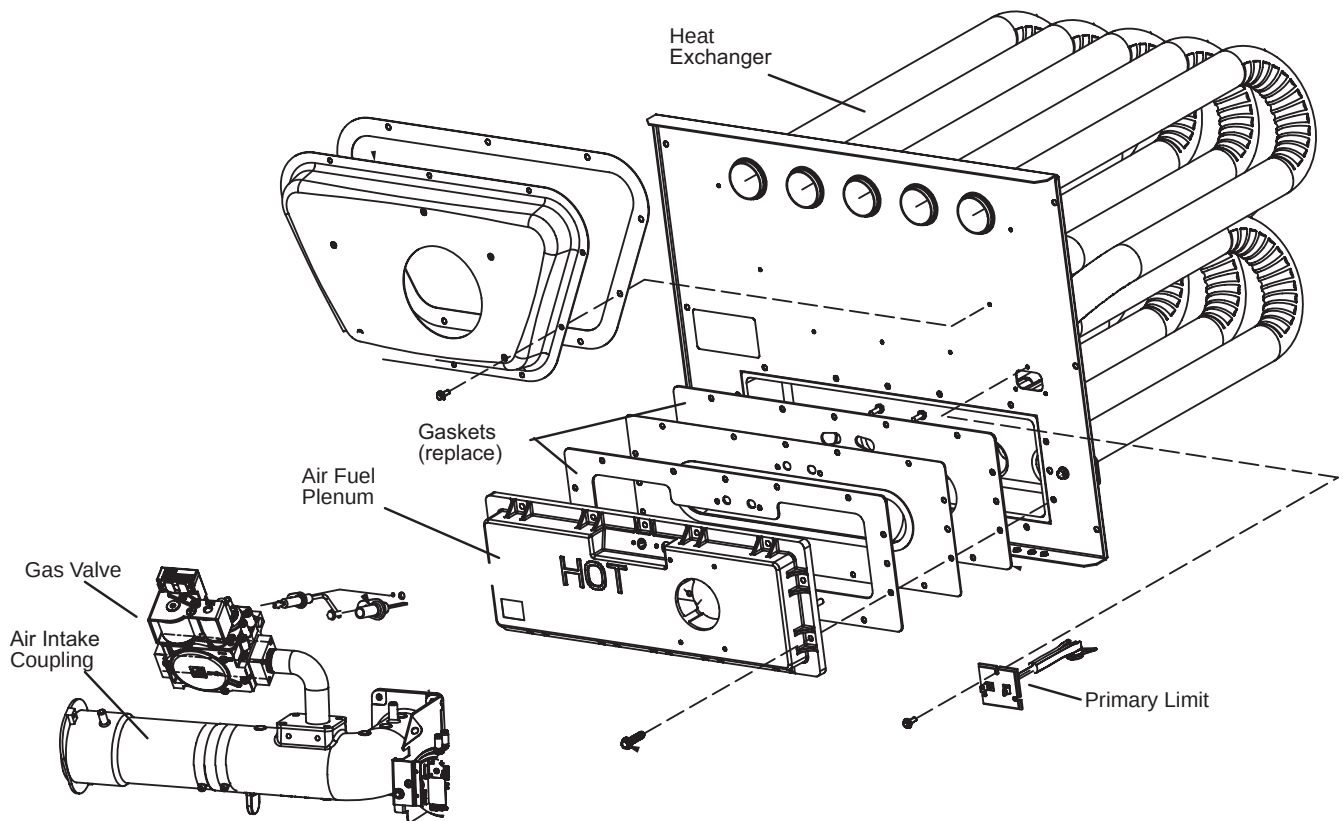

Figure 28. Heat Exchanger and Burner Removal
10. To clean burner, remove from the air gas plenum and run a vacuum cleaner over the face of burner. Visually inspect inside the burner for any blockage caused by foreign matter. Remove any blockage. **Figure 28** shows burner detail. Replace gasket between burner plate and air fuel plenum then re-install burner plate.